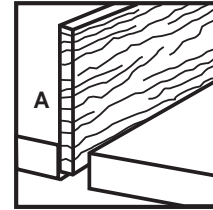

Figure 12
- Clamp board A to a workbench or clamping table. See Figure 12.